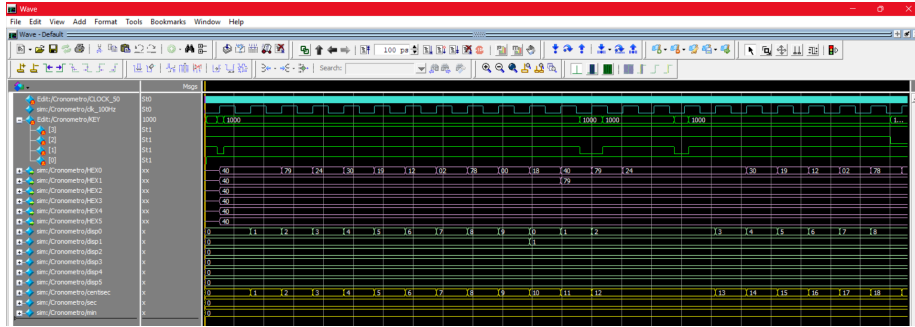

Figure 2: Simulation showing the use of the reset button (KEY[0]) and the enable button (KEY[1]) to stop the counting.
- In Figure 2, besides using the reset button KEY[0] at the beginning, the enable button KEY[1] is used to stop both the counter (yellow lines) and the display on the 7-segment displays (pink lines).